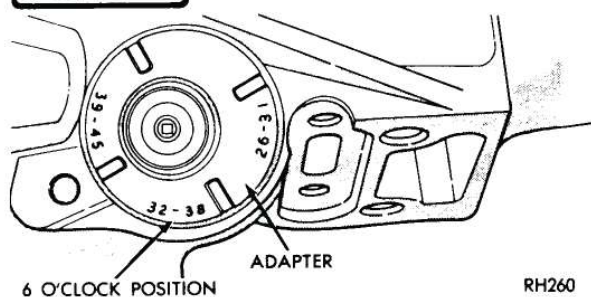
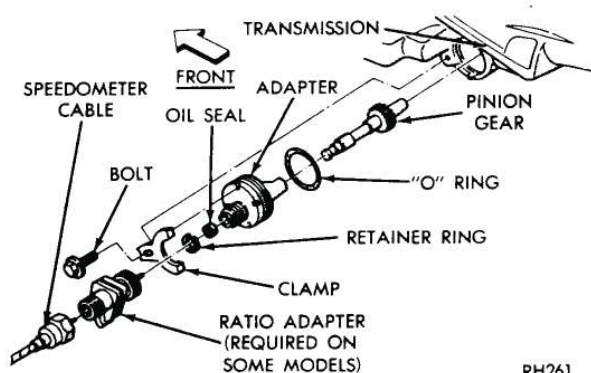

Fig. 1—Speedometer Pinion and Adapter
Fig. 2—Speedometer Drive
- (1) Place drain pan under speedometer adapter.
- (2) Remove bolt and retainer securing speedometer pinion adapter in the extension housing (Fig. 1).
- (3) With cable housing connected, carefully work adapter and pinion out of the extension housing.
- (4) If transmission fluid is found in cable housing, replace seal in the adapter (Fig. 2). Start seal and retainer ring in the adapter, then push them into adapter with Tool C-4004 until tool bottoms (Fig. 3).
(5) Note number of gear teeth and install speedometer pinion gear into adapter.
(6) Rotate the speedometer pinion gear and adapter assembly so that the number on the adapter, corresponding to the number of teeth on the gear, is in the 6 o'clock position as the assembly is installed (Fig. 1).
(7) Install retainer and bolt, with retainer tangs in adapter positioning slots. Tap adapter firmly into the extension housing and tighten retainer bolt to 100 in. lbs. (11 N·m). Refill transmission.
(1) Mark parts for reassembly then disconnect propeller shaft at rear universal joint. Carefully pull shaft assembly out of the extension housing.
(2) Remove speedometer pinion and adapter assembly (Fig. 1). Drain approximately two quarts of fluid from the transmission.
(3) Remove bolts securing extension housing to the crossmember. Raise transmission slightly with service jack, then remove center crossmember and support assembly.
(4) Remove extension housing to transmission bolts.